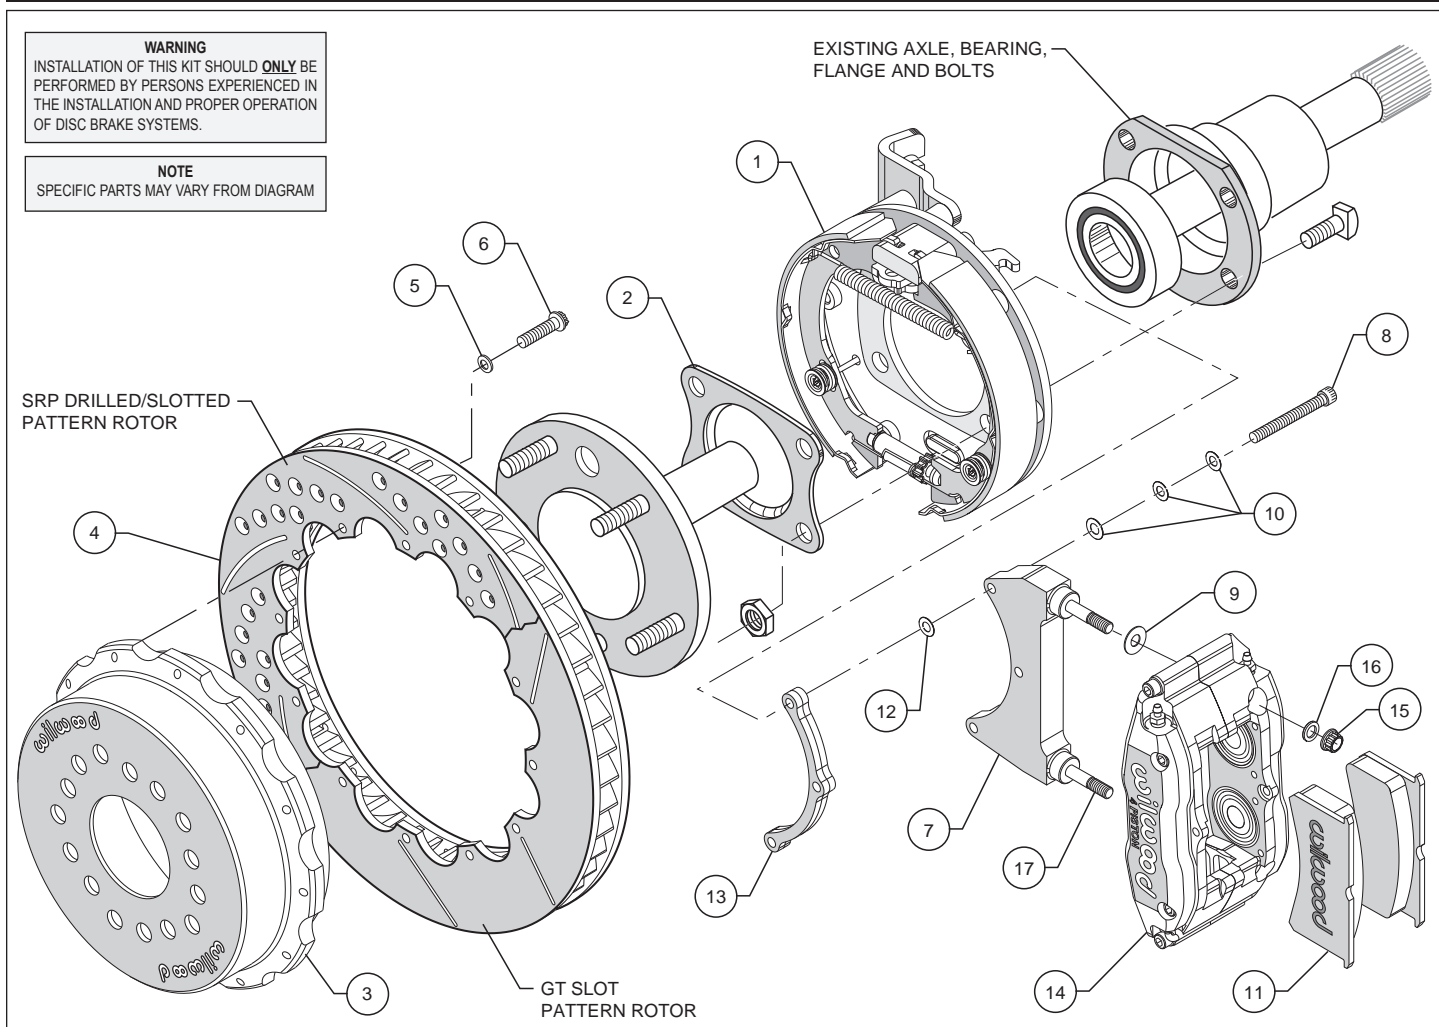

Figure 1. Typical Installation Configuration
- Full Circle Retainers** require the utilization of a qualified machine shop to press off the axle bearing and OEM retainer. Then have machine shop install new retainer (2), supplied with bracket kit with lip facing toward bearing, reference Figures 1, 4 and 5 (we suggest that you install a new bearing at this time, not supplied with kit).
- "U" Retainers** require the removal of the OEM retainer by cutting or grinding a notch in the retainer to facilitate removal. Once OEM retainer is removed, install new retainer (2) supplied with bracket kit with the "U" opening facing up and the lip facing toward bearing, reference Figures 1, 4 and 5.
•Align the correct hole pattern in the hat (3) with the stud pattern on the axle flange. **NOTE:** Some OEM and aftermarket axles come with stud sizes larger than 0.50" diameter. Verify stud size and have a qualified machine shop drill the hats to the correct size, if necessary. Slide the hat/rotor assembly (3 and 4) over the wheel studs covering the bracket kit assembly (1) and against the axle flange face. Check to be sure the hat seats squarely against the hub. Install a couple of lug nuts (finger tighten) to keep the rotor/hat assembly in place while continuing with the installation.
•**NOTE:** Please reference the caution statement at the beginning of the assembly instructions. The caliper mounting bracket assembly (7) should be installed first with clean, dry threads on the mounting bolts (8). Install the bracket from the rear side of the bracket kit assembly (1) by sliding bolt (8) through three flat washers (10), bracket (7), shim washer (12) and finally through the spacer (13), see Figure 1. **NOTE:** End of bolt should not exceed inside face of insert. The bracket must tighten squarely against the back side of the bracket kit assembly (1). Inspect for interference from casting irregularities, machining ridges, burrs, etc. Use one thin shim (12) between the bracket (7) and spacer (13) during initial trial fitting.
•Install one shim (9) over each pre-installed stud (17) on the radial mount bracket (7). Slide the caliper (14) in place over the studs and rotor, then install the washer (16) and lock nut (15) to hold the caliper in place. The caliper bleed screws should be pointing up. Snug the lock nuts (15) and check that the rotor (4) is centered in the caliper (14). Add or subtract .015" shims (12) as necessary between the caliper mounting bracket (7) and the spacer (13) to center the caliper (9).
•Remove the caliper center bridge pad retainer bolt, nut, and tube from the caliper. Slide the brake pads (11) into place. They should install easily without interference. Check that the outside radius of the brake pad is aligned with the outside diameter radius of the rotor face. Add or subtract shims (9) between the caliper (14) and mount bracket (7) to gain the proper alignment. Reinstall the center bridge pad retainer tube, bolt, and locknut. The locknut should be snug without play in the bolt or tube. Be cautious not to over tighten.
•Adjust the parking brake shoes outward (using a drum shoe adjustment tool available at your local auto parts store) while spinning the hat (3) until a slight drag is felt against the hat/drum. Remove the lug nuts that were holding the hat/rotor in place. Install the wheel and lug nuts. Check to see that the wheel rotates freely without interference.
•Once all clearances have been checked, remove the wheel, caliper, hat/rotor from the bracket kit assembly (1). Secure the caliper mounting bracket (7) to the bracket kit assembly (1) using red *Loctite*® 271. Torque bolts (8) to 180 in-lb. Reinstall the hat/rotor assembly and again use lug nuts to hold it in place. Lubricate caliper mounting studs and nuts with lightweight oil, reinstall the caliper, torque the caliper nuts (15) to 30-35 ft-lb.
•**NOTE:** Clevis and cable kits which attach to the parking brake assembly are not included in the Wilwood parking brake kit. Wilwood offers a generic style parking brake cable kit, P/N 330-9371 for this application which can be ordered separately from your local Wilwood dealer or by calling Wilwood customer service at (805) 388-1188.